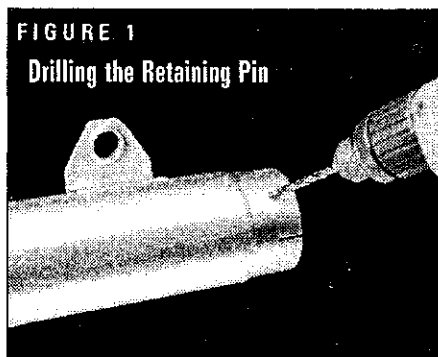

FIGURE 1
- 2 Mark hole placement with center punch and drill a 1/8" hole (see Fig.1).